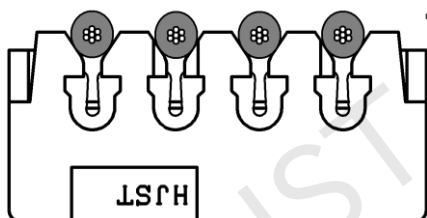

Fig.11
- ① Wire insulation is not located under the protrusions of the strain relief as shown in Fig.11 and 12.